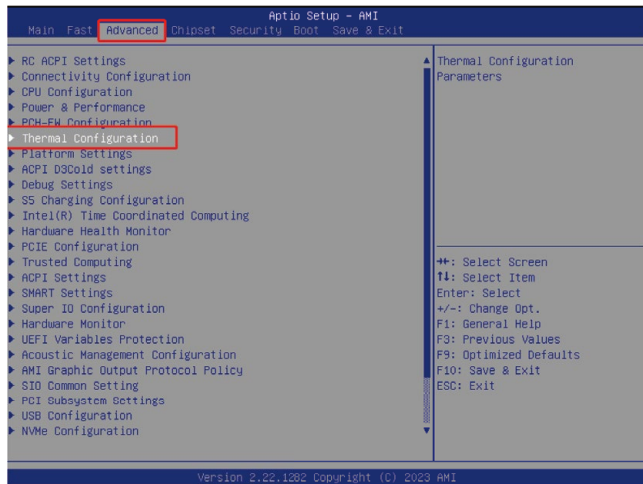

Figure 2-9-3
③ Select the Advanced menu item, press the ↓ key to select the Thermal Configuration item, and press the Enter key to enter. Figure 2-9-3.